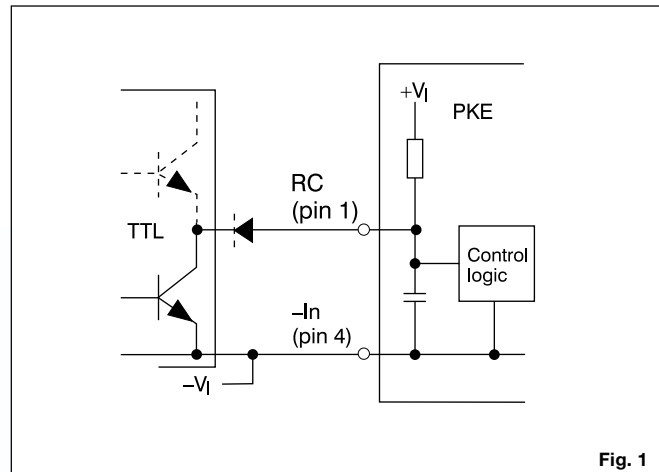

Fig. 1
Turn-on or turn-off can be realized by using the RC-pin. Normal operation is achieved if pin 1 is open (NC). If pin 1 is connected to pin 4 the PKE DC/DC power module turns off. To ensure safe turn-off the voltage difference between pin 1 and 4 shall be less than 1.8 V. RC is TTL open collector compatible (see fig. 1). Pin 1 is an output and no current should be driven into pin 1. Use a diode if necessary e.g. totem pole TTL logic. The internal pull-up resistance is $36 \text{ k}\Omega$.